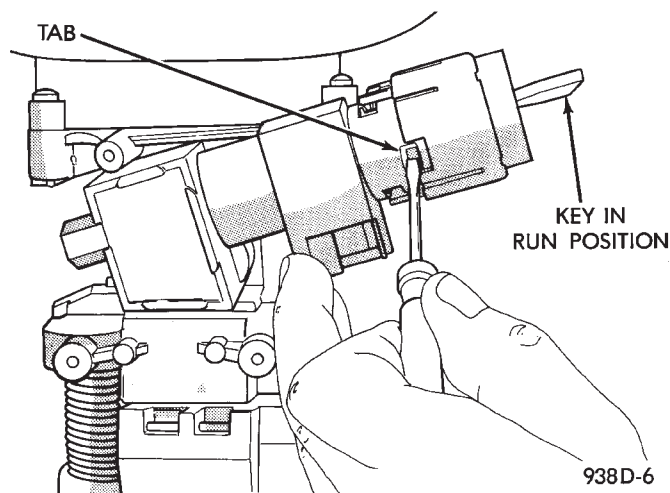

Fig. 7 Lock Cylinder Removal
(4) Turn the ignition key to the run position. When ignition switch is in the run position, the lock cylinder retaining tab will depress.
(5) Depress tab and slide lock cylinder out of housing (Fig. 7).